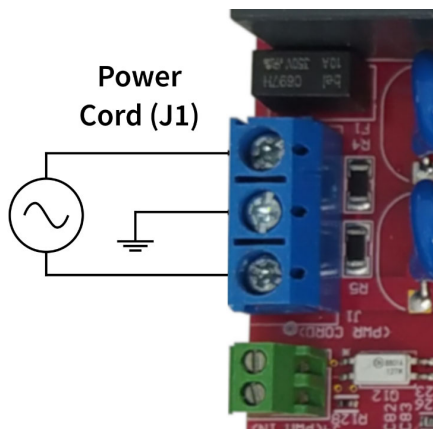

Figure 11. ECS640A EVB AC Mains Connection (J1)
Step 9: Connect the AC mains wiring cable to ECS640A EVB J1 connector and power up the EVB unit. Ensure the EVB input rectification topology matches the AC mains voltage level (ECS640A EVB unit ships with 120 Vac default AC input configuration). See Figure 11 for details.